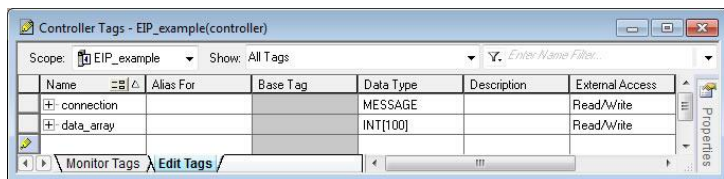

Figure 27: Create New Tags
- b) The "Controller Tags" window appears. Refer to Figure 27.